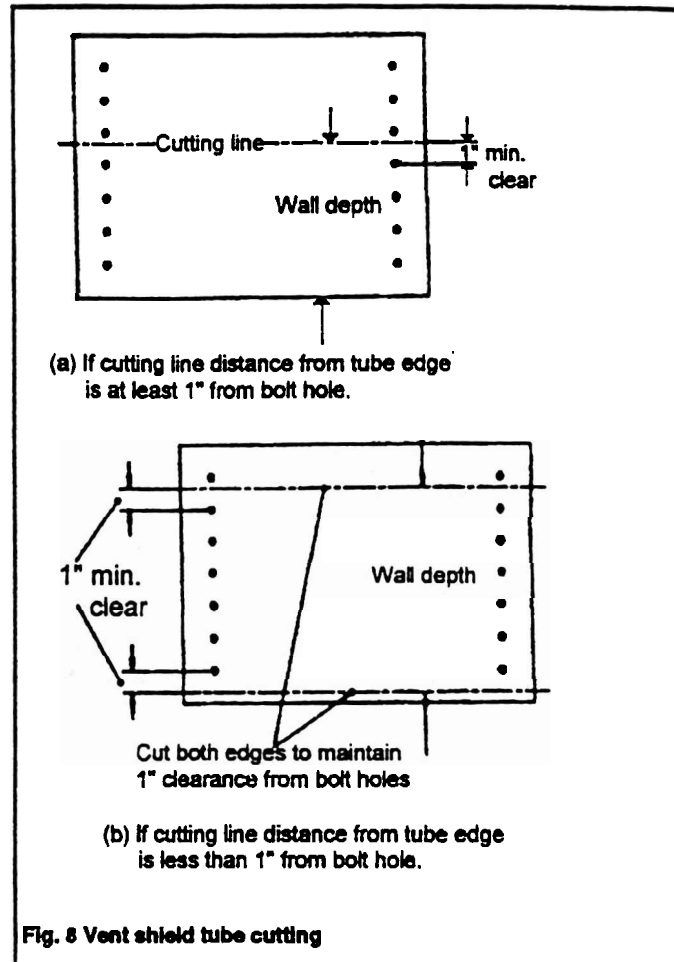

Fig. 8 Vent shield tube cutting
- 7.9 Flatten the outer vent shield tube (For walls thicker than $24\frac{1}{2}$ " a custom shield should be made). The tube is supplied coiled around the vent terminal unit. Cut the tube exactly to the total wall depth. Make sure that the cutting line is at least 1" away from the nearest bolt hole (see figure 8).